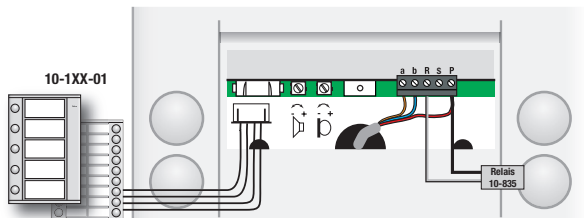

Fig. 3: connection terminals and volume control
Insert the cable (minimum of one pair) through the opening provided at the back of the external audio unit. Mount the external audio unit at a height of 140 to 150 cm using the mounting holes provided for this purpose. If using a three-wire connection, connect three wires from the cable to terminals a, b and P of the external audio unit (fig. 3).
**Optionally**, you can connect an additional door opener relay (10-835) to the external audio unit. Terminals P and R are provided for this purpose (fig. 3).